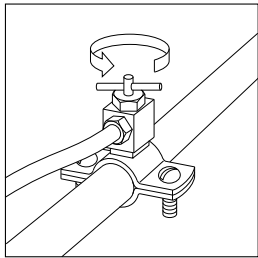
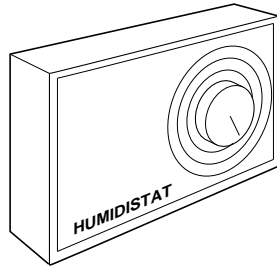

Fig. 4
Fig. 5
1. Open the saddle valve on the water supply line. (See Fig. 4.) Set humidistat to the desired relative humidity. (See Fig. 5 and Table 2.)
2. Turn off the humidifier's water supply. (See Fig. 4.)